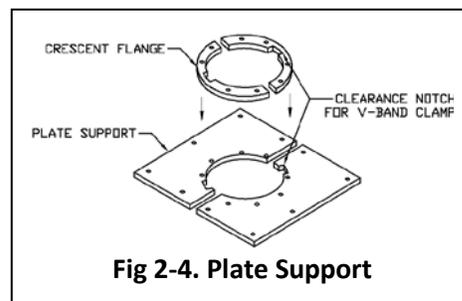

Fig 2-4. Plate Support
3. Position Crescent flange above V-Band. Align clearance notch in Crescent flange with Clamps on V-Band. The Crescent flanges should overlap the seam between Plate Supports. (See Fig. 2-4)